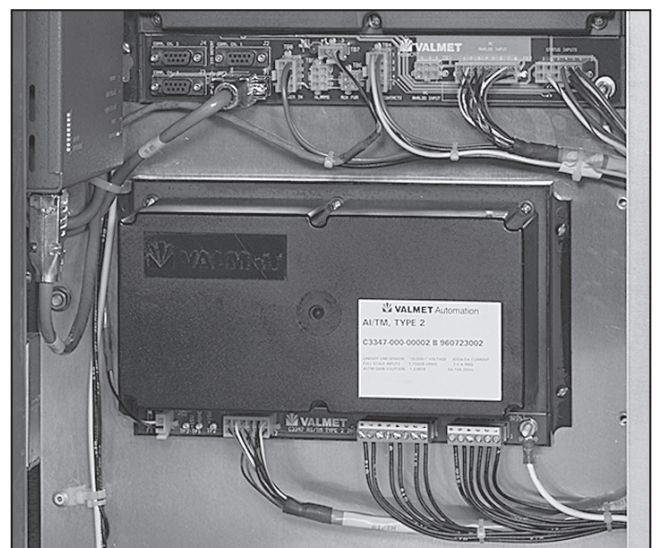

Figure 3. The remote terminal unit.
STEP 2. If a remote terminal unit is included, disconnect the control power. See Figure 3.